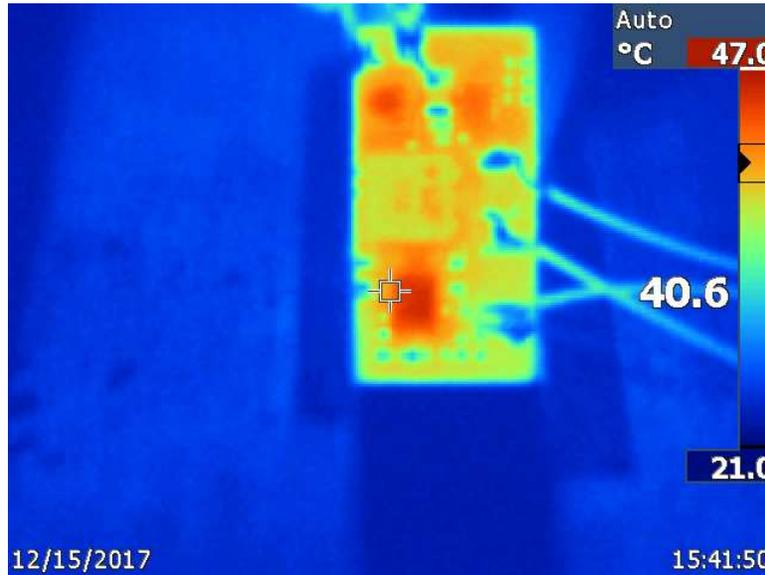

Figure 7. PMP15039 Thermal Image: $V_{IN} = 24\text{ V}$, $I_{OUT1} = 0\text{ A}$, $I_{OUT2} = 1\text{ A}$
The infrared (IR) thermal image in Figure 7 was taken at steady-state with $V_{IN} = 24\text{ V}$ and the TPS62821 output at a full load of 1 A (no airflow). The ambient temperature is approximately 22°C. The maximum IC temperature is 47°C.